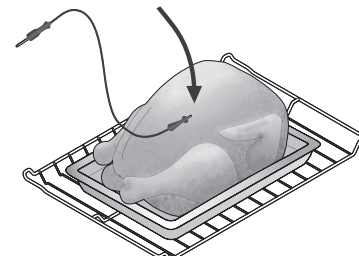

Figure 17: Probe in thickest part of breast
- For whole poultry or turkey, fully insert the probe sensor into the thickest part of the breast (See Figure 17).